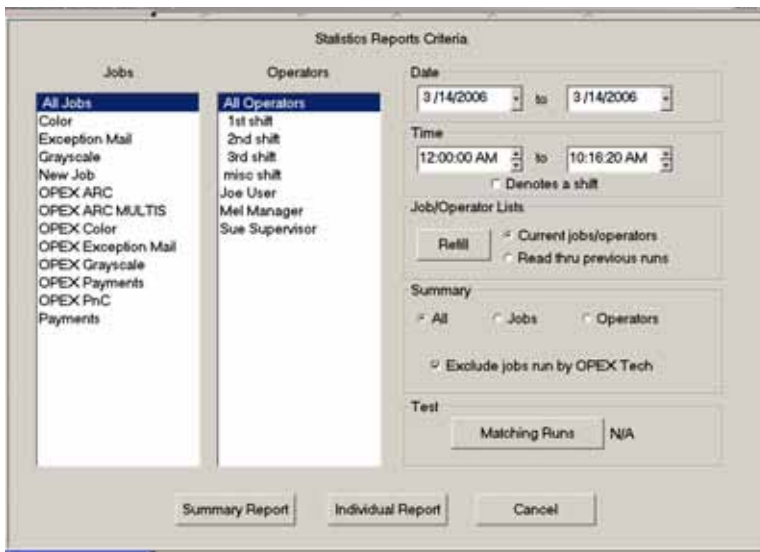

Figure 25: Statistics Reports Criteria screen
- 3 In the Statistics Reports Criteria window, set the parameters for the report as shown in Figure 25: